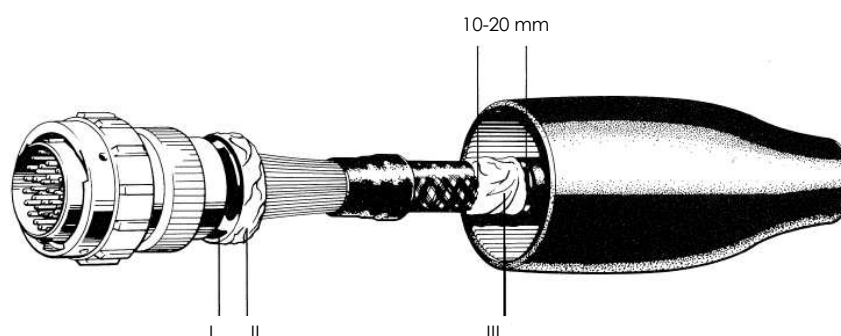

Figure 7 Adhesive application
5.11. Apply the adhesive in the following sequence as shown in Figure 7.
- S1125 to the lip groove of the adaptor (I)
- S1184 to the large knurled section of the adaptor (II), working the adhesive into the knurl to a thickness of approximately 2 mm.